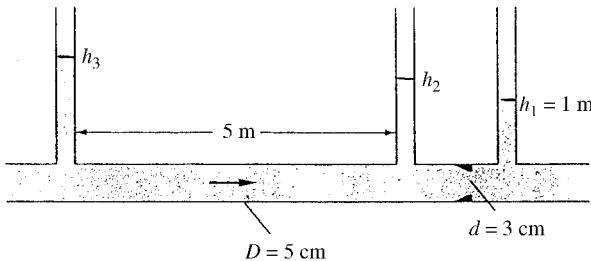

Fig. P6.148
**6.148** A smooth pipe containing ethanol at 20°C flows at 7 m3/h through a Bernoulli obstruction, as in Fig. P6.148. Three piezometer tubes are installed, as shown. If the obstruction is a thin-plate orifice, estimate the piezometer levels (a)  $h_2$  and (b)  $h_3$ .